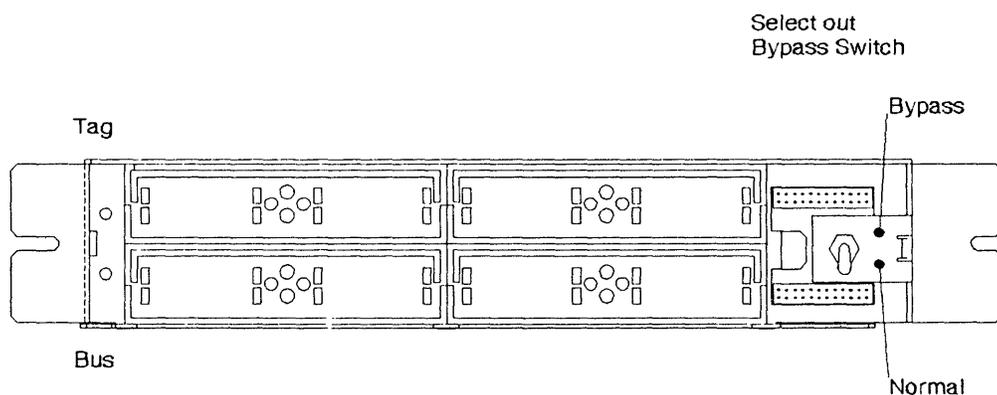

Figure 4-122. Select Out Switch
7. At the channel tail gate connectors, set all the select out bypass switches to **Bypass**. Refer to Figure 4-122.